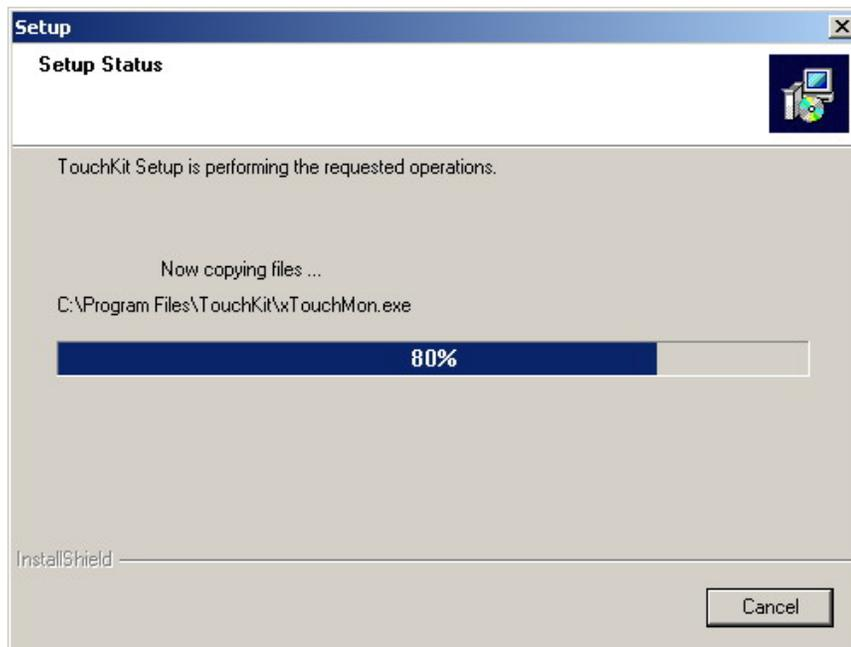

Figure C-9: Installing
Step 12: The program then starts installing (Figure C-9).